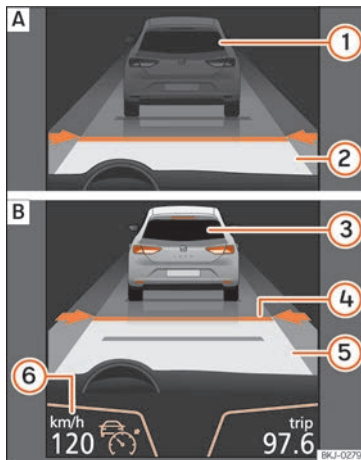

Fig. 234 On the instrument panel display: **A** ACC inactive (Standby). **B** ACC active.
Indications on the display » **Fig. 234**:
When the ACC is connected, the green control lamp (Ⓢ) will light up on the instrument panel, and the programmed speed and ACC status will be displayed » Fig. 234.
tivated and the current speed and distance are programmed. The picture in the box will change to Active mode »» Fig. 234 ③.
- To set the speed, move the third lever up  or down  to the desired speed »» Fig. 234 ⑥. The speed adjustment is made at 10 km/h (6 mph) intervals.
The instrument panel display modifies the selected distance »» Fig. 234 ④. There are 5 distance levels to choose from. SEAT recommends level 3. The set distance can be changed when the vehicle is stopped or while driving »» .